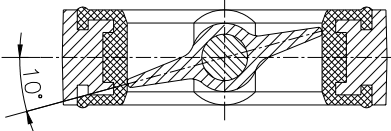

Fig 2.2 Disc in 10° open position
- 4.2 All wrapping and protection on the valves should not be removed until the valve is ready for installation. All valves are delivered with disc in 10° open position (Refer to figure 2.2).